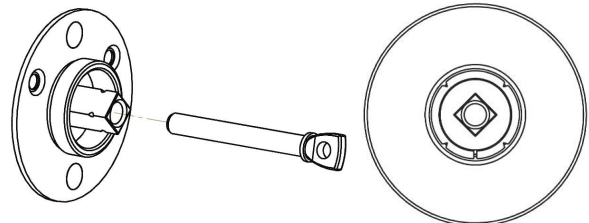

Figure 26
**ALIGN SPINDLE WITH DIAMOND HOLE IN LOCK-BODY AS SHOWN IN (FIGURE 26)**